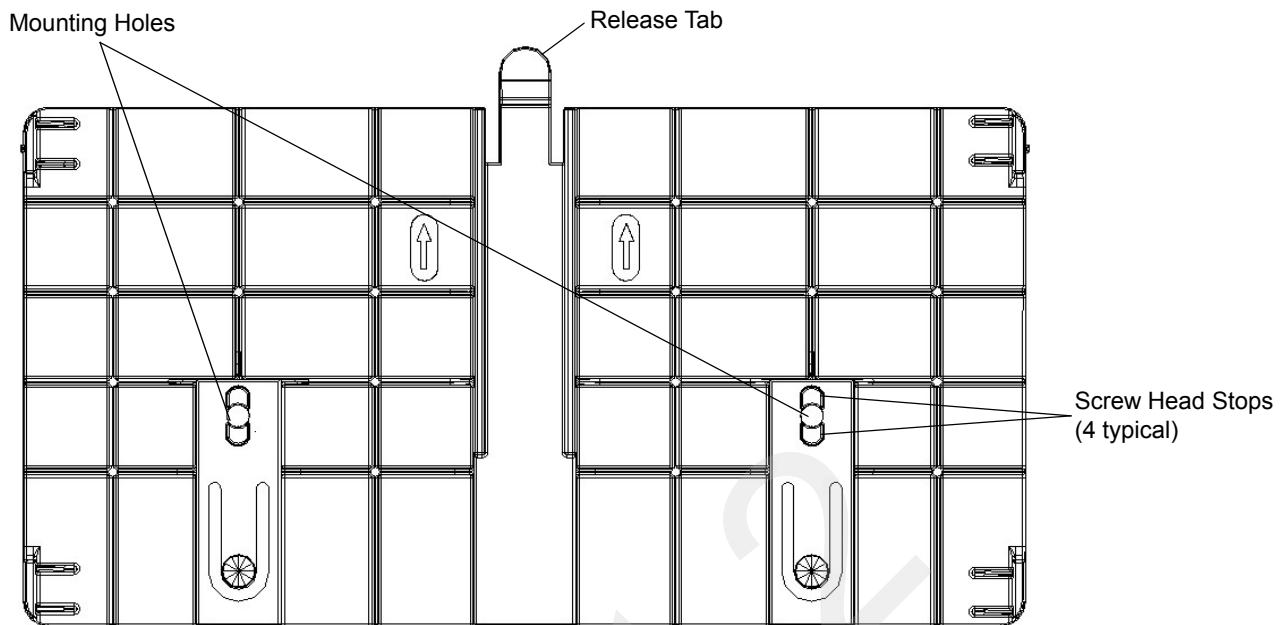

Figure 3-1 Mounting Plate, Front
1. Position the mounting plate on a flat surface (wall or shelf). Position the release tab on the top. See Figure 3-1.
2. Mark the hole locations using the mounting plate as a guide. See Figure 3-1. Remove the mounting plate and drill holes (appropriate for the surface material) at the marked locations.
⚠ **CAUTION** Use a hand screw driver to install the mounting plate (do not use a power driver). Do not use excessive torque, and tighten the screws so that they are just snug on the screw head stops (see *Figure 3-1*). If the reader does not engage the mounting plate, loosen the screw(s) 1/8 to 1/4 turn and try again.